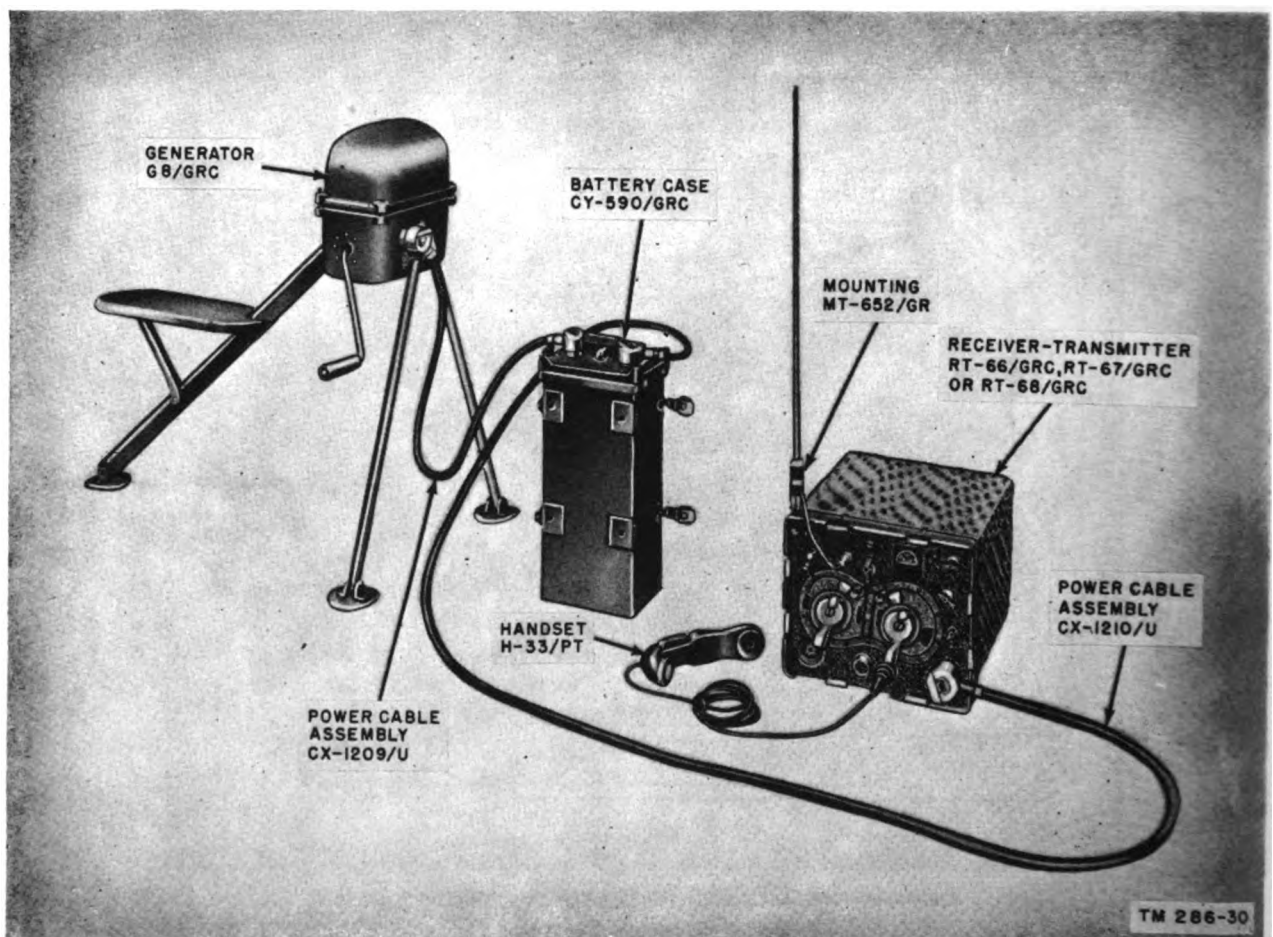

Figure 62. Field operation of Set 1 with Generator G-8/GRC and Case CY-590/GRC.
e. MOUNTING MT-652/GR. Mounting MT-652/GR (figs. 62 or 64) is used to hold the antenna masts used in field installations. The overhanging flange of the receiver-transmitter front panel has a boss which will accept the base of Mounting MT-652/GR. When the mounting is secured, the mast sections supplied with the modification kit (*f* below) can be screwed into the mounting. A rubber-covered lead-in wire, which is part of the mounting, is used to connect the antennas to the ANT post on the receiver-transmitter.
(fig. 62)
b. Set up the generator, battery case, and receiver-transmitter, as illustrated in figure 62. Refer to the manual supplied with the generator for detailed information on that unit. Turn the OFF-ON-REMOTE CONTROL switch of the battery case to the OFF position.